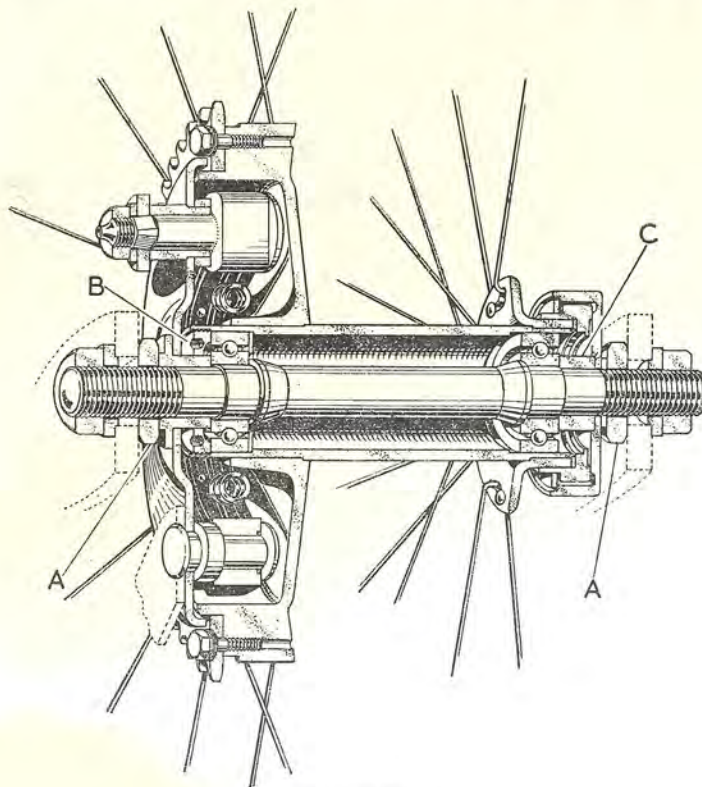

Fig. D32.
Unscrew the large nuts (A) Fig. D32 on the spindle, locking the spindle in the same way as described for the front wheel. Remove the brake cover plate complete with shoes and then the speedometer drive gearbox from the right-hand side. (Note the distance piece and driving dogs).
After fitting the drive-side bearing and its retainer, insert the spindle from the right-hand side drive in the right-hand bearing to the shoulder on the spindle, slide the distance piece (C) Fig. D32 over the right-hand side of the spindle, then the speedometer gearbox taking care to mesh the driving dogs and screw on the spindle locknut. This nut can be finally tightened after the brake cover plate is fitted.